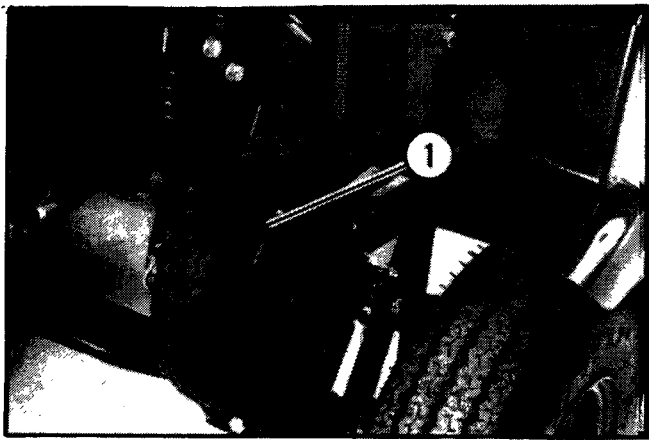

Figure 22
7. Pull down on the hitch of the trailer and lower the hitch to the ground. Position the Lawnaire V so that it aligns with the stop assemblies. Adjust the stop assemblies to leave approximately a 1/4" (6 mm) space between the stop assembly and the wheel. Tighten stops securely. Place the wheel locking lever over the right wheel (See Figure 22) and prepare tote trailer for towing. Refer to the instructions and precautions for transporting the tote trailer.